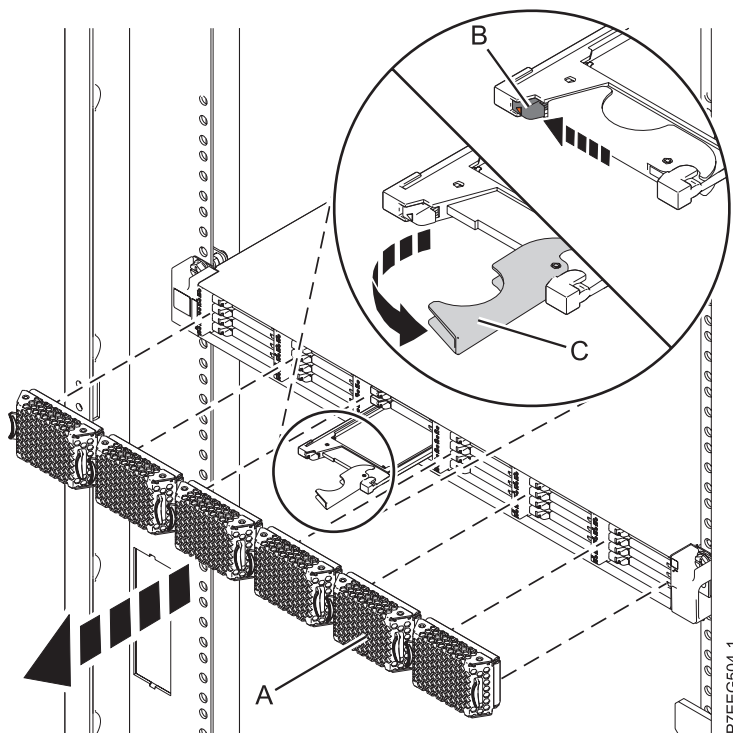

Figure 19. Removing the solid-state drive from the ED/R1 PCIe storage enclosure
1. Pull off the bezel (A) that covers the slot containing the solid-state drive.
2. Slide the release latch (B) over gently to unlock the drive handle. See Figure 19.